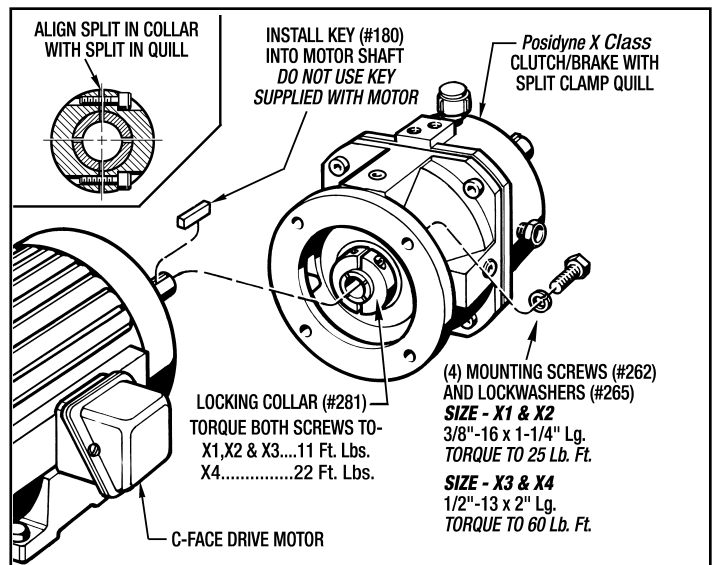

Figure 3 - Mounting The Posidyne Clutch/Brake
(See *Figure 3*)
2. Loosely install the Locking Collar (#281) in position on the Input shaft (#2) with the split in the collar aligned with the split in the quill shaft as shown in *Figure 3*. **Do not tighten the screws yet.**